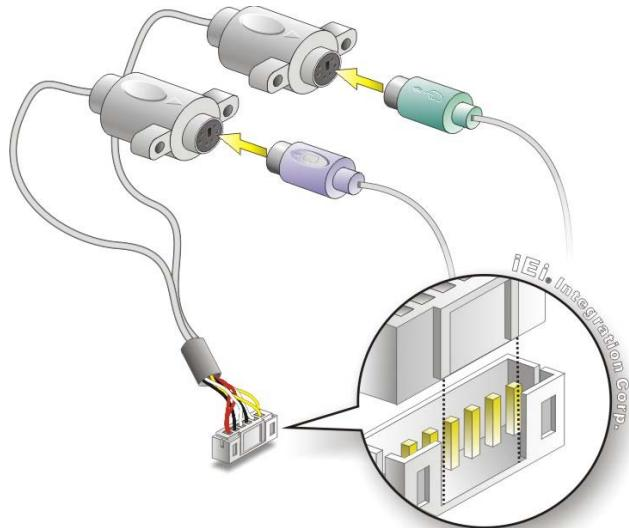

Figure 4-11: Keyboard/mouse Y-cable Connection
**Step 2: Align the connectors.** Correctly align pin 1 on the cable connector with pin 1 on the KINO-CV-D25501/N26001 keyboard/mouse connector. See Figure 4-11.
**Step 3: Insert the cable connectors** Once the cable connector is properly aligned with the keyboard/mouse connector on the KINO-CV-D25501/N26001, connect the cable connector to the on-board connectors. See Figure 4-11.